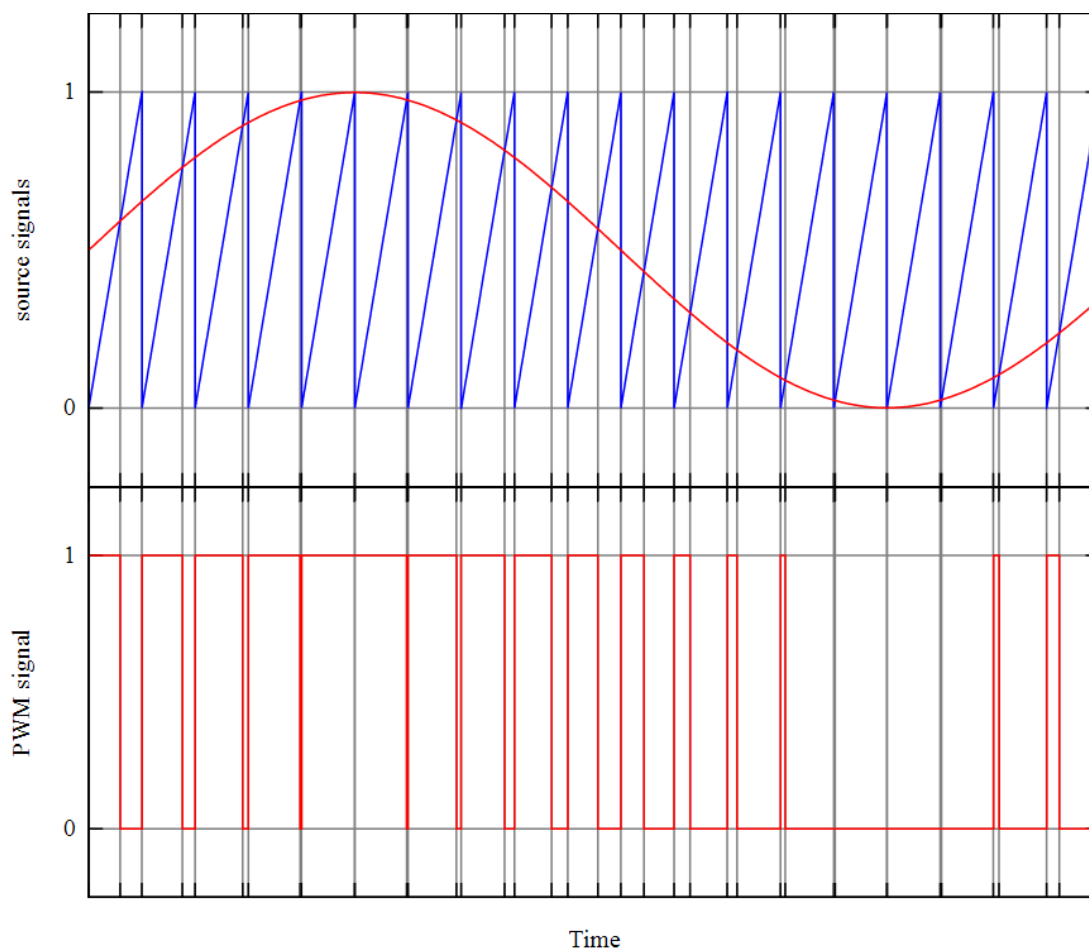

Figure 3: Intersective PWM Signal Generation
Figure 3 shows a simple method to generate the PWM pulse train corresponding to a given signal is by using the intersective PWM method: the signal (here the red sine wave) is compared with a sawtooth waveform (blue). When the latter is less than the former, the PWM signal (bottom) is in high state (1). Otherwise it is in the low state (0). We do all this digitally, with a counter for the sawtooth, and an updating SPI voice value for the signal.